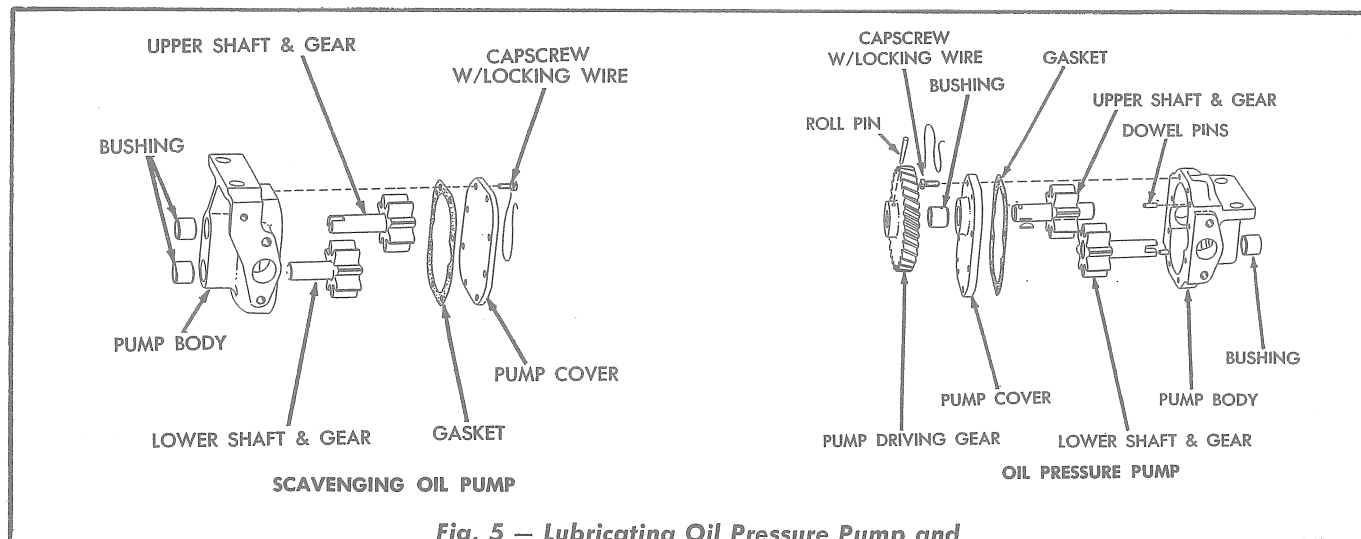
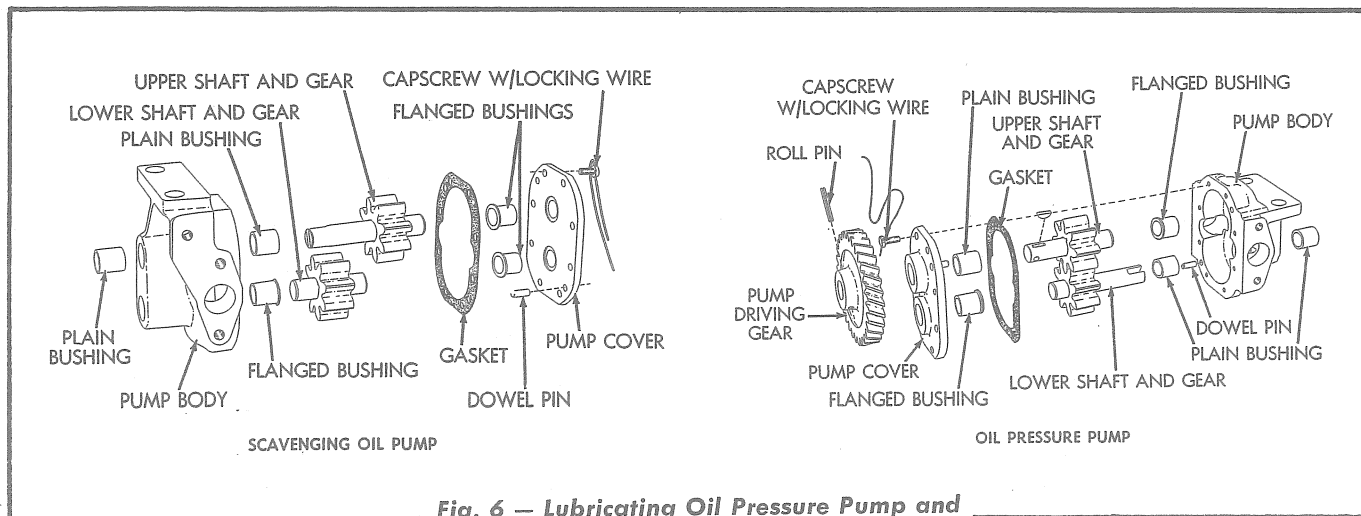

Fig. 5 — Lubricating Oil Pressure Pump and Scavenging Oil Pump Details (Tractors Prior to Serial No. 4001)
Fig. 6 — Lubricating Oil Pressure Pump and Scavenging Oil Pump Details (Tractors Serial No. 4001 and Above)
The gear-type oil pressure pump is mounted on the front main bearing cap as shown in Fig. 3. The oil pressure pump driving gear is a helical gear which meshes directly with the crankshaft gear. The pump driving gear is pressed on and keyed to the front end of the upper shaft and gear assembly (Figs. 5 and 6) and is retained by a roll pin. The upper shaft and gear assembly of the pump drives the lower shaft and gear assembly.
The rear end of the lower shaft is slotted and extends through the rear of the pump body and is connected to the upper shaft and gear assembly of the scavenging oil pump by means of a drive shaft (Fig. 3). On tractors prior to Serial No. 4001 the upper shaft and gear assembly is supported at each end by bushings located in the pump body and the pump cover. The lower shaft and gear assembly is supported by bushings located in the pump body as shown in Fig. 5. On tractors Serial No. 4001 and above the upper and lower shaft and gear assemblies are supported by plain bushings and flanged bushing located in the pump body and pump cover as shown in Fig. 6. The gears of both the upper and lower gear and shaft assemblies are keyed and pressed onto their respective shafts and are not serviced separately.
C. Disassembly of Oil Pressure Pump (Figs. 5 and 6)
- a. On tractors prior to Serial No. 4001, refer to Figs. 5 and 7, and install the bushing in the bore of the pump cover so that the outer end (driving gear end) of the bushing is $\frac{1}{64}$ " in from the front machined surface of the cover. Three bushings are provided in the pump body bores; one bushing in the upper shaft bore and two bushings in the lower shaft bore. The upper shaft bushing is to be installed in the pump body so that the inner end (gear end) of the bushing is $\frac{1}{32}$ " in from the inner machined face of the body. The bushings for the pump lower shaft are to be installed so that the inner end (gear end) of the inner bushing is $\frac{1}{32}$ " in from the inner machined face of the body and the outer end of the outer bushing
- b. On tractors Serial No. 4001 and above, refer to Figs. 6 and 7 and install the plain bushing in the upper shaft bore and the flanged bushing in the lower shaft bore in the pump cover. The two bushings are to be flush with or below the machined inner surface of the pump cover. Three bushings are provided in the pump body bores; the flanged bushing in the upper shaft bore and the two plain bushings in the lower shaft bore. The upper shaft bushing is to be installed in the pump body so that the top of the flange is flush with or below the inner face of the body. The bushings for the pump lower shaft are to be installed so that the inner end (gear end) of the inner bushing is $\frac{1}{32}$ " in from the inner machined face of the body and the outer end of the outer bushing should be located $\frac{1}{32}$ " in from the outer face of the pump body.
(Figs. 5 and 6)
- a. Tractors prior to Serial No. 4001 have two bushings in each shaft bore in the pump body. Refer to Figs. 5 and 7 and install the inner bushing in each shaft bore of the pump body so that the inner end (gear end) of each bushing is $\frac{1}{32}$ " in from the inner machined face of the body. Install the outer bushing in each shaft bore of the pump body so that the outer end of each bushing is $\frac{1}{32}$ " in from the outer face of the pump body. Ream the bushings to .7495" to .7505".
- b. On tractors Serial No. 4001 and above, refer to Figs. 6 and 7 and install the two flanged bushings in the pump cover. The bushings are to be installed so that the top of the flange is flush with, or below, the inner machined face of the pump cover. Three bushings are provided in the pump body bores; the flanged bushing in the lower shaft bore and the two plain bushings in the upper shaft bore. The flanged bushing is to be installed in the pump body so that the top of the flange is flush with, or below, the inner machined face of the pump body. The plain bushings are to be installed so that the inner bushing is $\frac{1}{32}$ " in from the inner machined face of the pump body, and the outer bushing is $\frac{1}{32}$ " in from the outer face of the pump body. Ream the bushings to .7495" to .7505".
E. Assembly of Scavenging Oil Pump (Figs. 5 and 6)